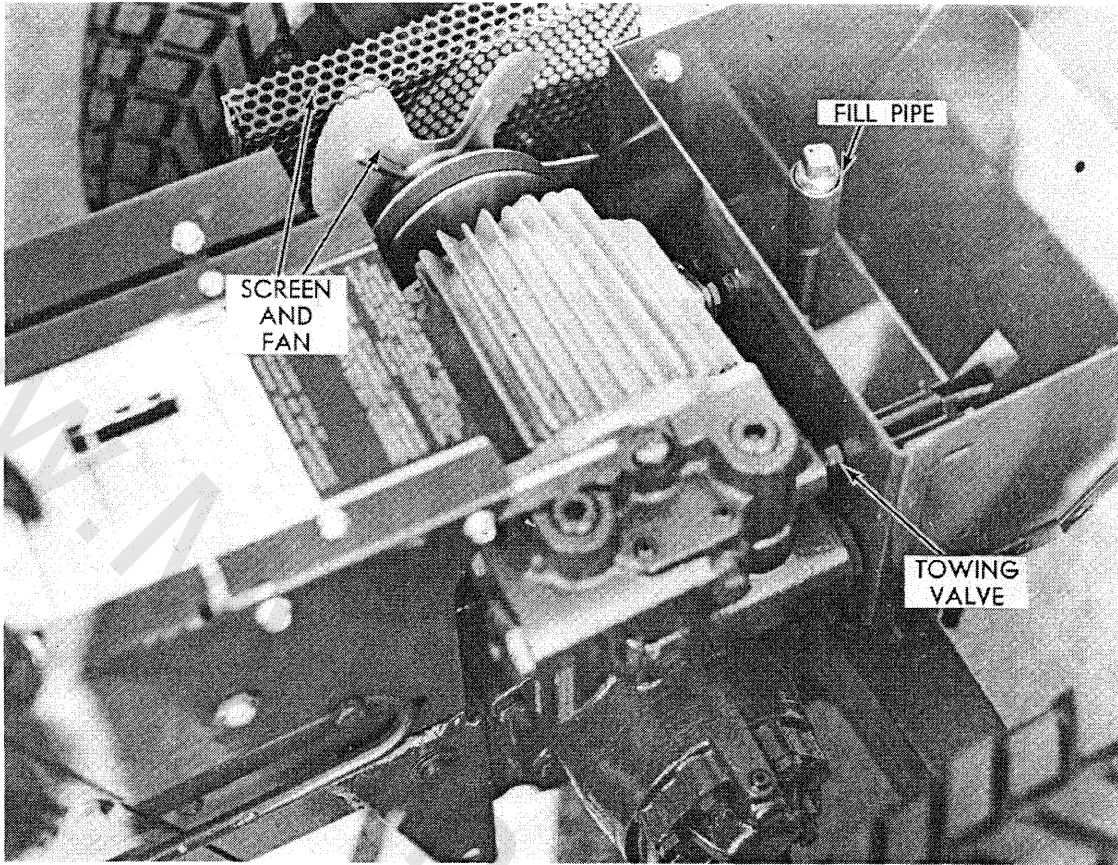

Figure 1
A. The towing valve is located on the back surface of the pump (See Figure 1.) To push or tow open the towing valve, using a $\frac{1}{2}$ " wrench. Be sure to retighten the valve gently, but securely, before operating tractor. **NOTE: This is a needle valve and must not be over tightened.**
B. CAUTION: Do not tow for long distance or over a speed of seven (7) miles per hour.